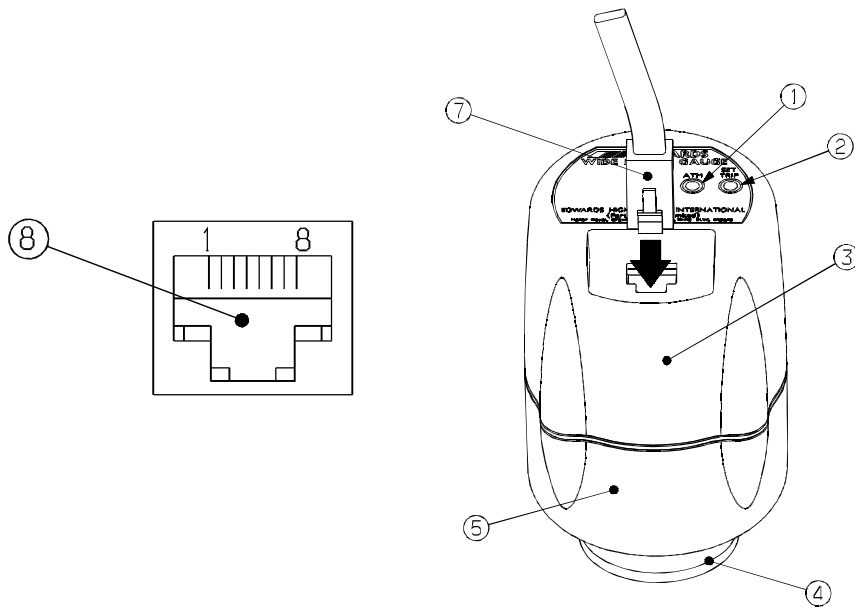

Figure 1 - General view of the WRG-S and -SL
The Wide Range Gauge, shown in Figure 1, is a combined inverted magnetron and pirani gauge in a single compact unit.
**Key to Figures 1 and 2**